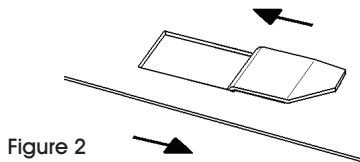

Figure 2
3. Once all the locking tabs are placed into square holes, slide the back panels in opposite directions to fully engage the tabs. (See Figure 2)